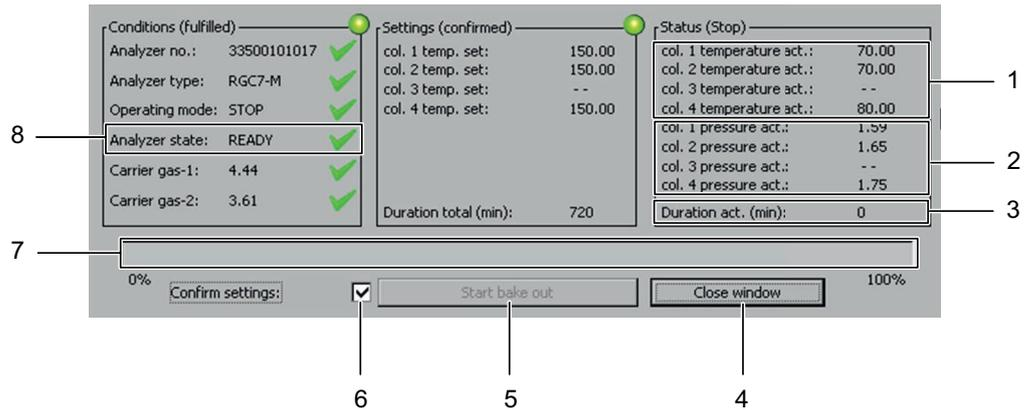

Fig. 38: Menu Bake-out – Confirm start bake-out procedure
- ➔ A new menu opens in the touchscreen (cf. fig. 38)